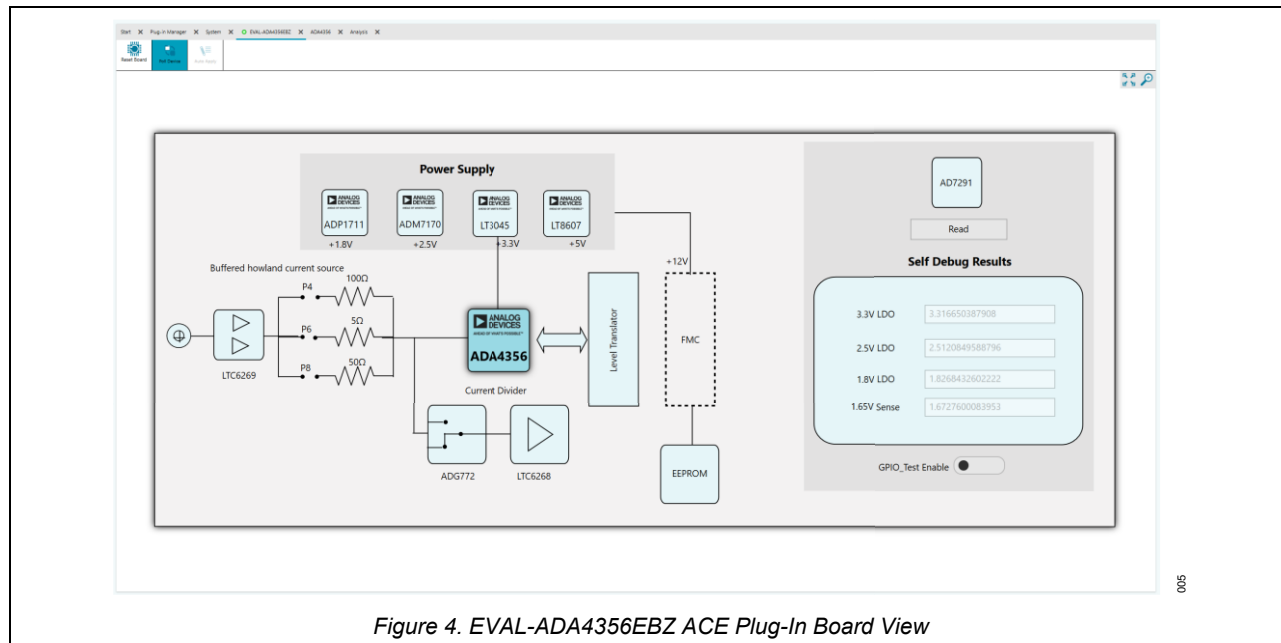

Figure 4. EVAL-ADA4356EBZ ACE Plug-In Board View
29. In the ACE software, double-click on the detected EVAL-ADA4356EBZ board, then double-click on its subsystem. This brings up the **Board View** window, as shown in Figure 4, where a summary of devices available in EVAL-ADA4356EBZ is visually shown. A user can configure the settings of the EVAL-ADA4356EBZ in this window.